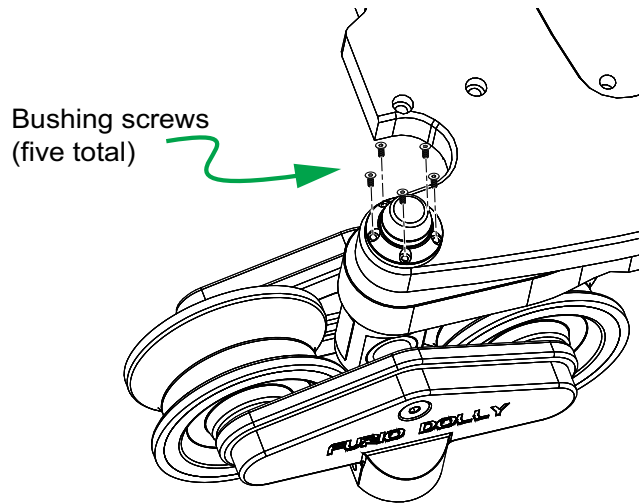

Figure 11 - Removing the Passive Wheel Bushing on the StableTrac Side
5. Use a 2.5 mm hexagonal wrench to secure the 5 passive wheel bushing screws to the dolly base. Refer to **Figure 11**.